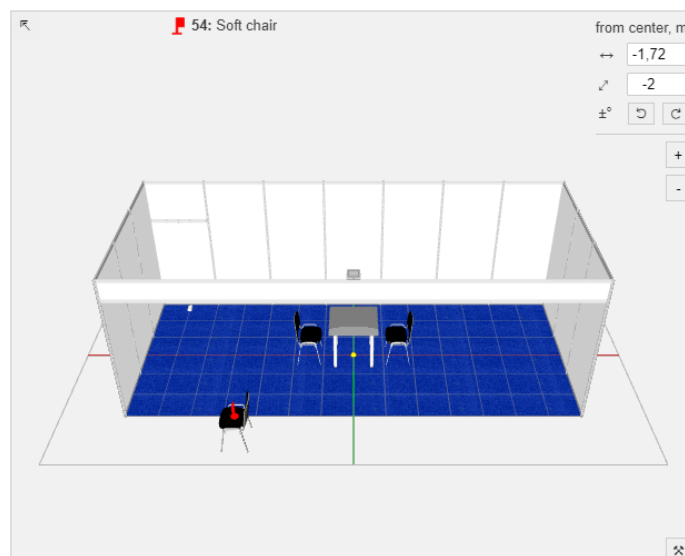
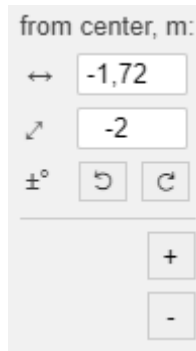

Fig.4
Рис.5
6. After selecting the equipment in the list, it will show up next to the stand boundary. Pls drag & drop it on the stand into the required position. (Fig.4) To do that grab it onto the red pivot flag point and move. To rotate it around the pivot point use corresponding buttons in the upper top corner of the layout. (Fig.5) After changing the size of the equipment the basic standard equipment may require adjusting its position.
7. The equipment can be copied or removed by selecting it and pressing +/- buttons. (Fig.5)